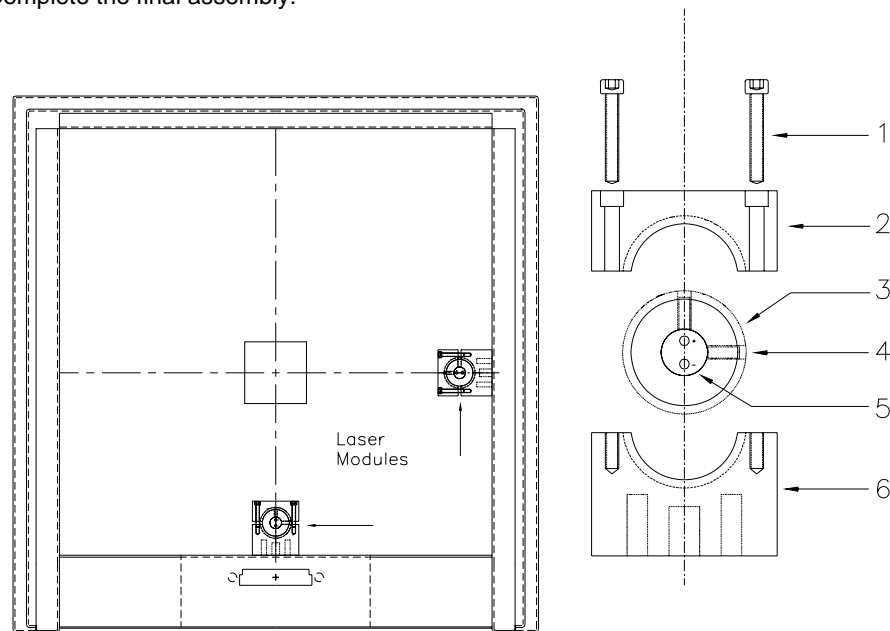

Figure 4-8. Laser Locator
The Laser Line Generator has an expected life of 100,000 hours and it would therefore be very unlikely that it should have to be replaced. If, however, replacement becomes necessary, proceed as follows (see figure 4-8).
3. Locate and remove 4 screws holding the complete control unit (the entire upper part of the MX-20). Lift the control unit straight up and place it on a secure support. This should expose the inner part of the exposure chamber and the two Laser Modules as shown in Figure 4-8.
4. Locate the connector and disconnect the two leads going to the Laser Line Generator 5 in Figure 4-8.
5. Using a 3/32" hex wrench, remove 2 screws 1 in Figure 4-8 and separate the top clamp 2 from the bottom clamp 6.